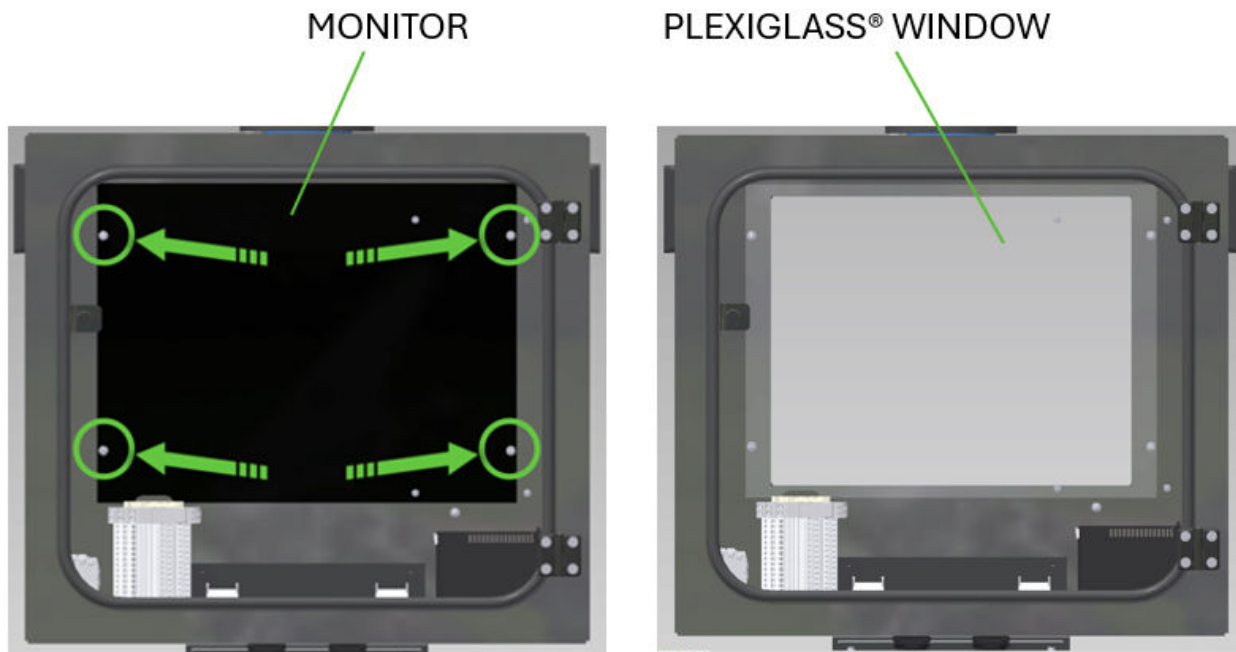

Figure 60 – RTW 3.0 Monitor fixation
17. Install the four screws that secure the monitor. Connect the 12 VDC power cable and the video cable to the monitor (see **Figure 60**).